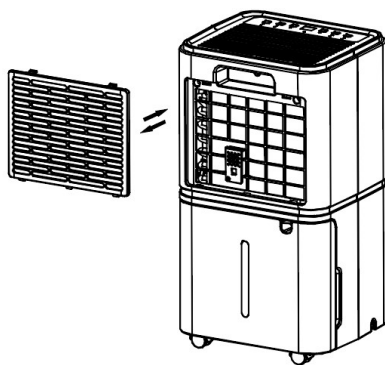

Fig. 1
1. Remove the filter by releasing it from its seat, following the direction of the arrow (Fig. 1).